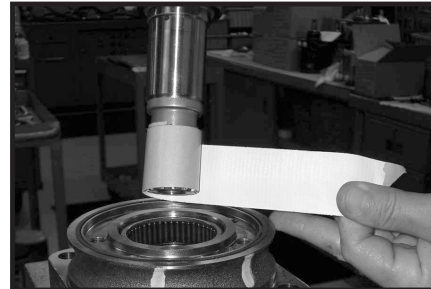

Figure 37
Apply masking tape to shaft 7. Apply masking tape around splines or keyway on shaft (12) to prevent damage to seal. SEE FIGURE 37.